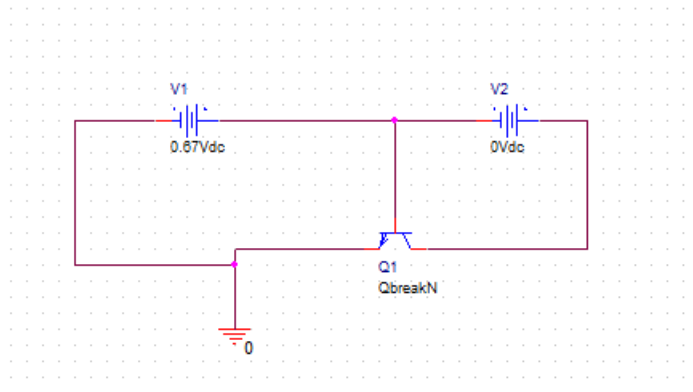

Figure 6: Foreword Current Gain Circuit Set Up
12. Go back to your circuit and remove the differential voltage markers. Move the ground to the emitter node. Replace the current sources with DC Voltage sources. See Figure 6.